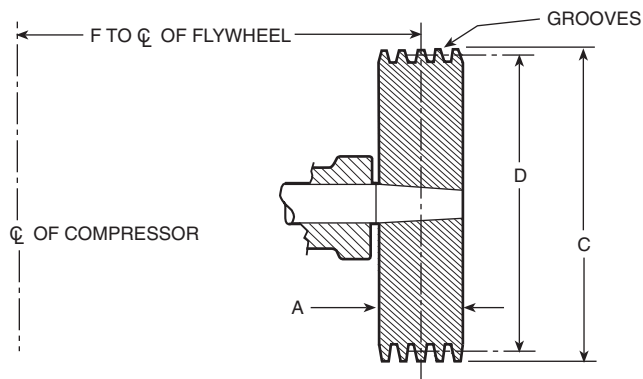

Fig. 17 — Flywheel
Drive Packages — Table 20 indicates drive package components for 5F,H standard belt drive packages. Figure 17 and Tables 21 and 22 indicate data for the flywheel used in each of these packages.
*Refer to Fig. 17.